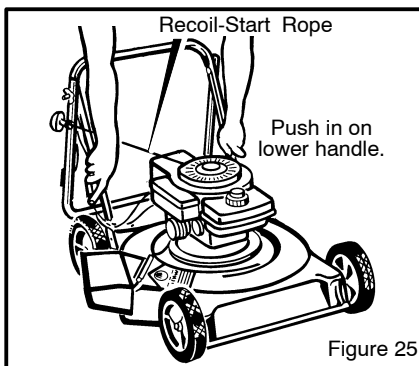

Figure 25
1. Loosen the knobs that hold the upper part of the handle to the lower part of the handle. As you fold the handle, make sure the cables are not around the loose fasteners and do not become damaged. Hold the engine stop lever in the Operating Position (against the handle). Rotate the upper part of the handle toward the back of the unit (Figure 25).